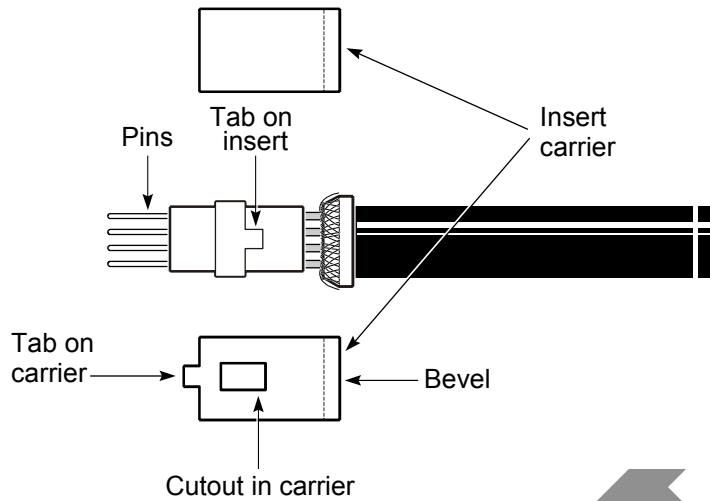

Figure 53 – .Putting the insert into the insert carrier
12. Put the insert into the insert carrier; see *Figure 53*.